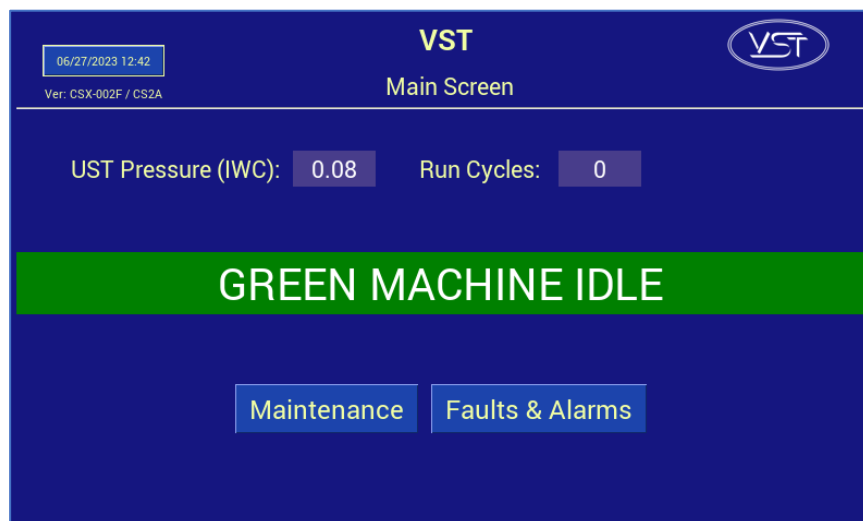

Figure 8-1: Control Panel Main Screen
- During normal operation when the GREEN MACHINE is functioning properly and no alarm conditions exist, the GM Status Bar will be green. **See Figure 8-1.**